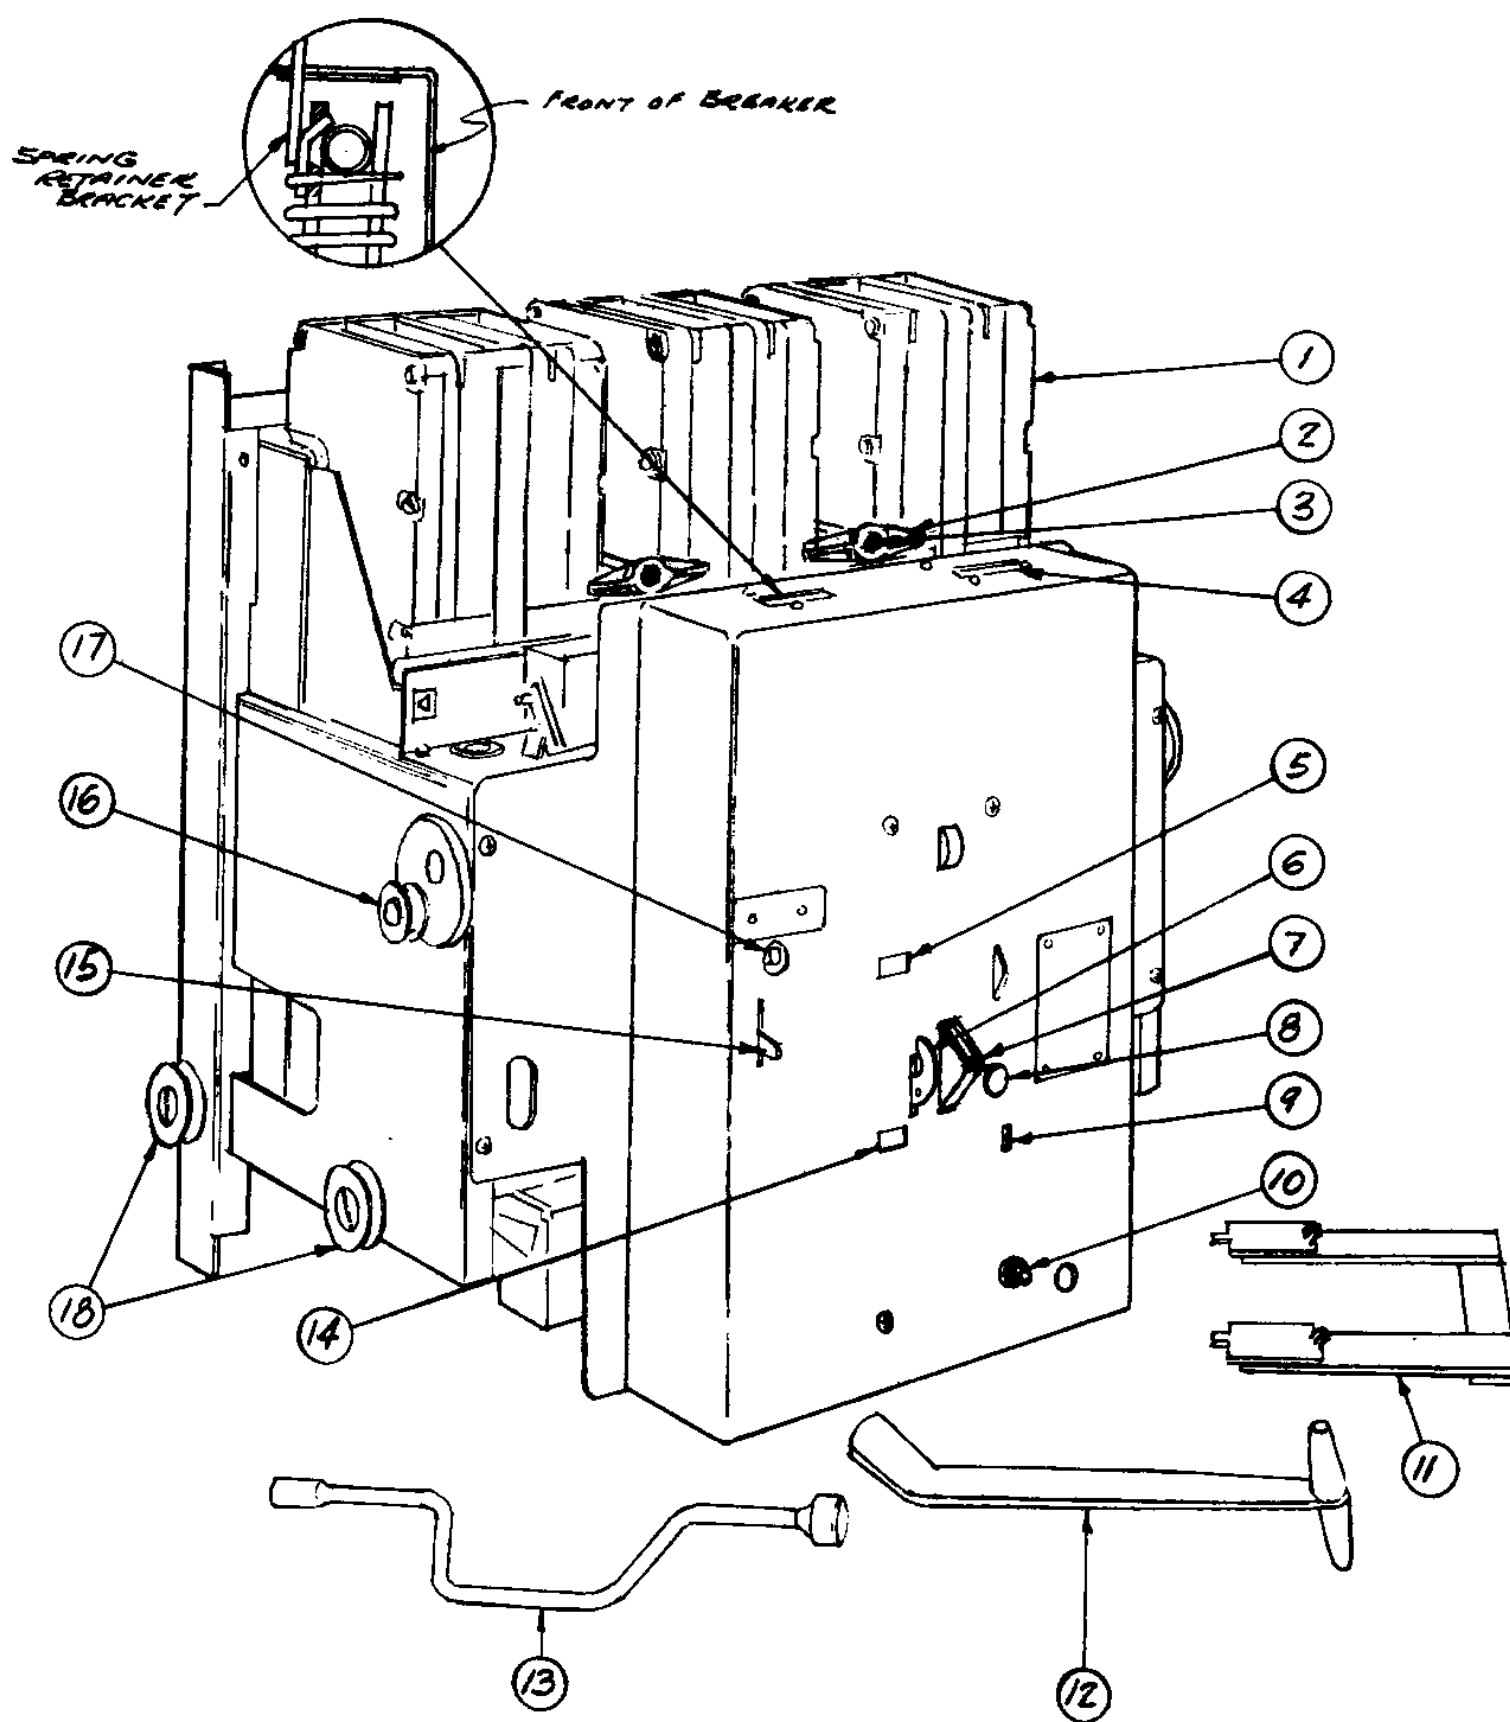

Fig. 1 - K-3000 and K-4000 Circuit Breakers
(See Fig. 1)
- a. Remove two arc chute mounting screws (3, Fig. 1) and retainer moldings (2).
- b. Lift arc chute (1) up and draw out.